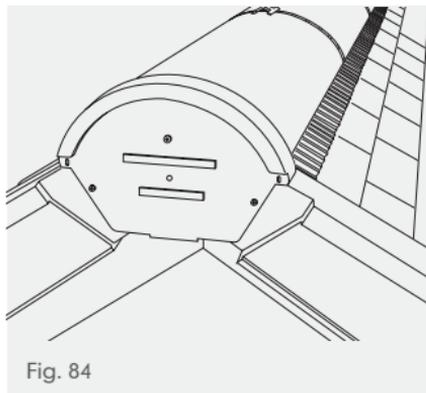

Fig. 84
- 10 Repeat this process along ridge line, ensuring screws are not over-tightened. The ridge line should be finished with a full-length ridge tile. The minimum length of any cut ridge tile should be no less than 250mm (Fig. 84).